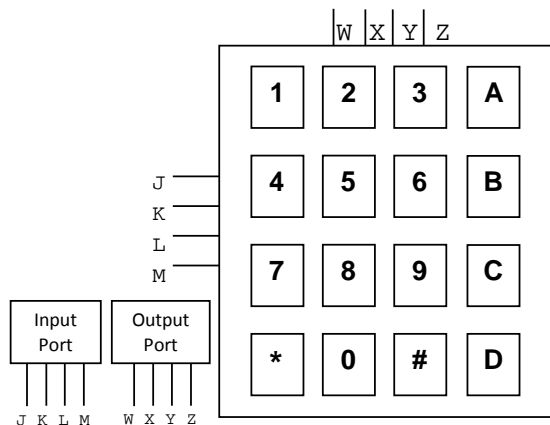

Figure 4: Keypad circuit.
When the keypad is connected to the microprocessor (as shown in Figure 4) and a key is pressed, a connection is established between an input port pin and an output port pin. A value written to the output port can be read from the input port. But what will be read on the unconnected (key not pressed) pins of the input port? Pull-up or pull-down resistors are used so that the input port pins do not have floating (i.e., indeterminate) values. The resistance is necessary to limit the current drawn by the port. With pull-up resistors, the input ports will be at “1” ($V_{cc} = +3.3V$) when no key is pressed. When a key is pressed, a “0” (GND) will appear on the input if the corresponding output is at “0”.
The keypad is read by scanning it one column at a time (Figure 4). First, write a 0b0111 (where 0b is a prefix representing binary numbers) to the appropriate output port pins (columns), and then read the input port (rows). This puts a zero on only the first column of the keypad. If any of the keys in column 1 are pressed, the corresponding input bits will be zero. If no key in column 1 is pressed, all inputs will be pulled high by the pull-up resistor. Next, write a 0b1011 to the output port pins (columns) to scan the second column. Continue by writing a 0b1101 then a 0b1110 to the output port pins to scan the third and fourth columns, respectively.
2. Wire up your keypad as shown in Figure 4. Add a detailed schematic of keypad connections to the schematics done in previously in this lab and add this to your pre-lab report. You should somehow show the internal XMEGA pull-up or pull-down resistors on your schematic.